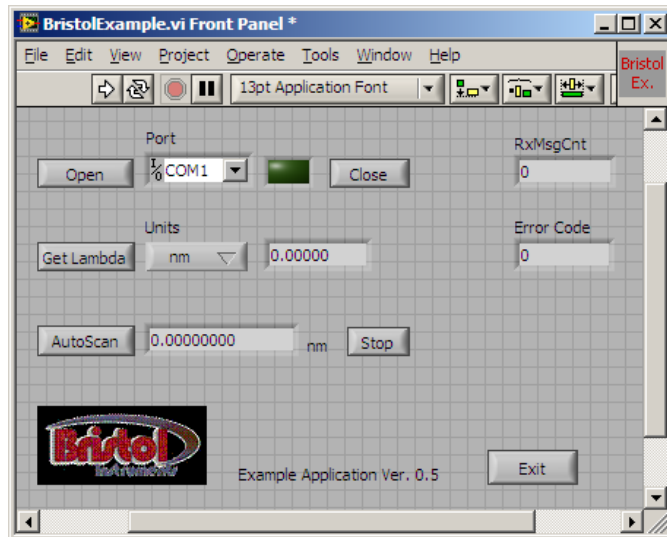

Figure 6.3: Sample BristolExample.vi.
- 1 On the BristolExample.vi Front Panel, shown in Figure 6.3, choose the appropriate com port from the pull-down list under the label "Port." The appropriate com port is the same port that was indicated in the PC's device manager when the instrument software was initially installed.